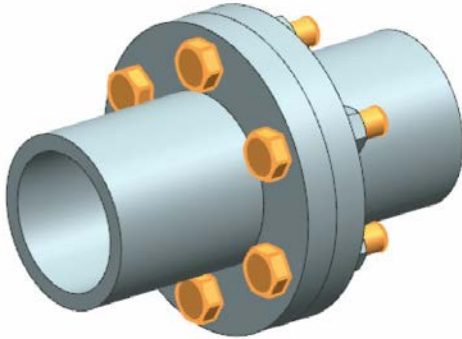

Figure 9-39 Bolts selected from the assembly for explosion
2. Start a new file and assemble all the components, refer to Figure 9-39. Save the assembly file in the same folder where the component files were saved.
3. Select all the Bolts from the assembly or from the **Assembly Navigator**; the Bolts are highlighted in the graphics window, refer to Figure 9-39. Next, choose the **OK** button from the dialog box; the **Class Selection** dialog box is closed and the **Auto-explode Components** dialog box is displayed.